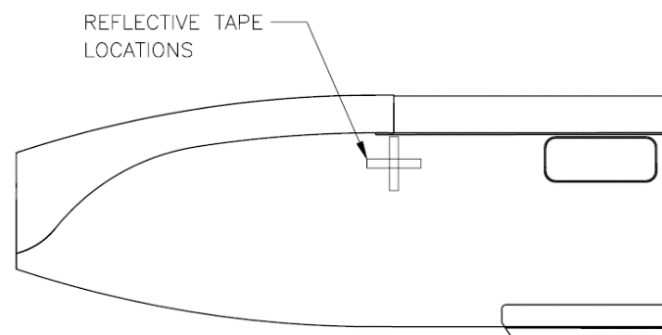

Figure 3: Reflective Tape Location for Strobe Tracking
- For strobe-type tracking devices (i.e. Strobex), place reflective tape on the lower blade surface just aft of the abrasion strip over the black paint, centered at the radial station where the blade sweep starts. See Figure 3.